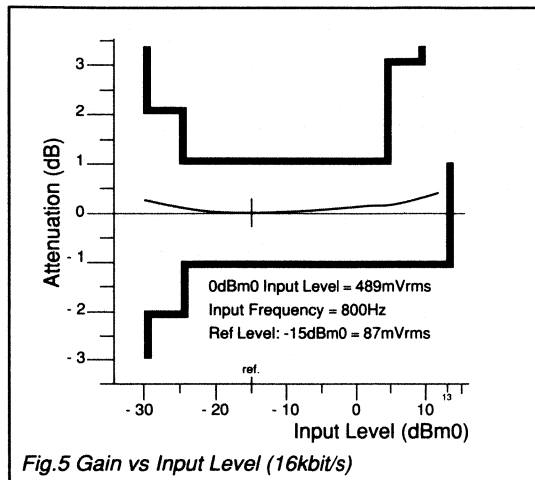

Fig.5 Gain vs Input Level (16kbit/s)
- Recommended values – See Figures 5, 6, 7 and 8.